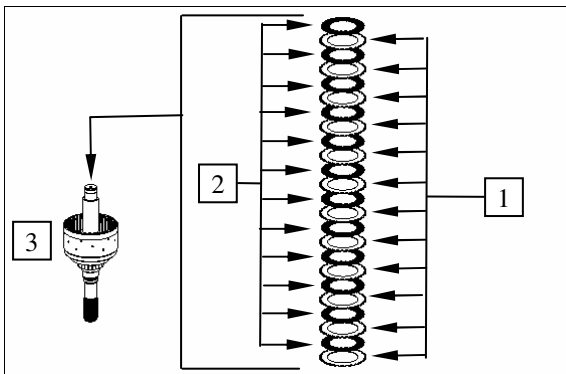

Figure 9
Install outer and inner disks alternately into the disk carrier (3) as shown in Figure 9,